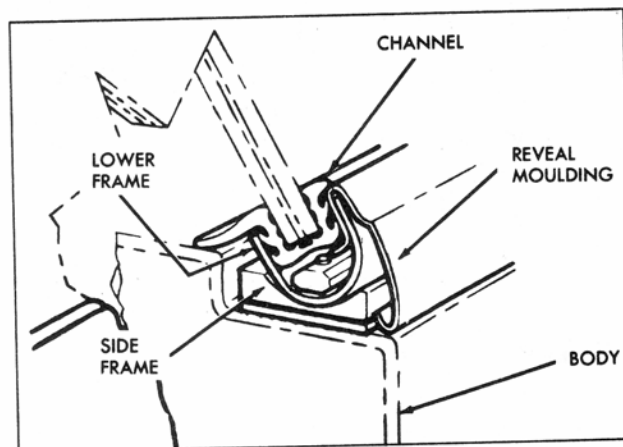

Fig. 8—View of Side Frame-to-Upper Frame Joint
8. Install screws at bottom of the side frame and secure to the lower frame. Figure 8 shows a cross sectional view of this area.